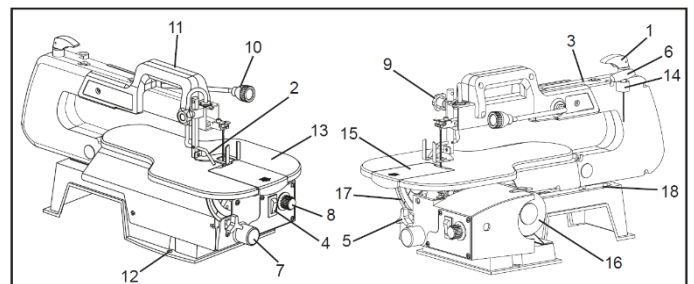

Fig. 1
## INSTALLING/REPLACING PINLESS (PLAIN END) BLADES (Fig. 1~4)
2. Loosen the tension by lifting the quick tension release lever (1-Fig. 1).
3. Tilt the table to the 0° bevel setting and lock into position with the table locking knob (5-Fig. 1).